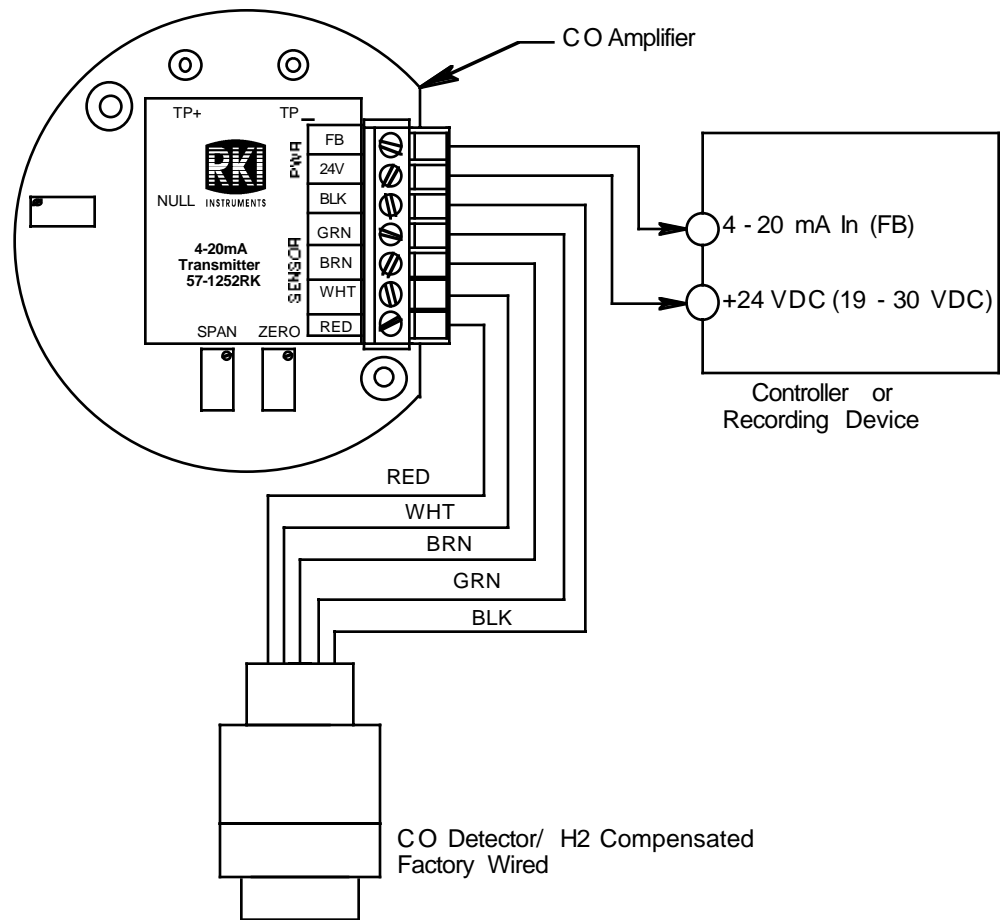

Figure 3: Wiring the CO Transmitter to a Controller
4. Verify that the detector leads are wired to the amplifier's terminal strip. If necessary, connect the detector leads to the terminal strip as shown in Figure 3.
6. Connect the two wires to the terminal strip as follows (see Figure 3.)
9. Connect the wires to the applicable controller transmitter terminal strip as shown in Figure 3.